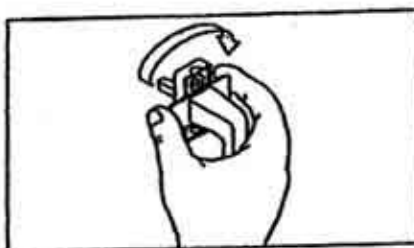

Figure 4-2. How to uncover the screw holes
- 2.1 Pull the screw cover of the SA-FE-Handle base towards you and rotate it 90° to uncover the screw holes. See fig. 4-2.